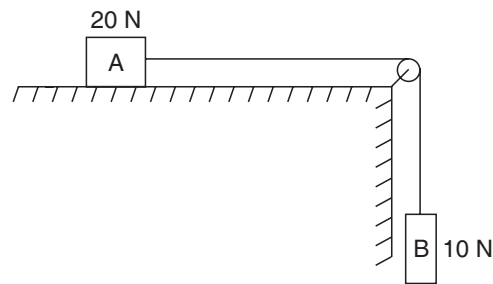

Fig. 8.22
14. Two blocks shown in Fig. 8.22, have weights  $A = 20 \text{ N}$  and  $B = 10 \text{ N}$  and the co-efficient of friction between the block A and the horizontal plane,  $\mu = 0.25$ . If the system is released, from rest, and the block B falls through a vertical distance 2 m, what is the velocity attained by the block B. Neglect the friction in the pulley and the extension of the string. [Ans. 2.56 m/s]